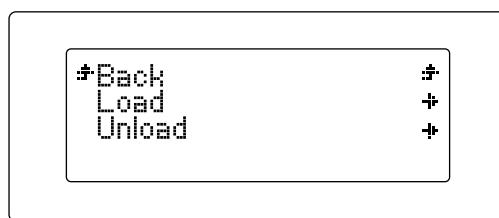

Figure 3.5 Filament sub-menu
- **Filament** sub-menu (fig. 3.5)